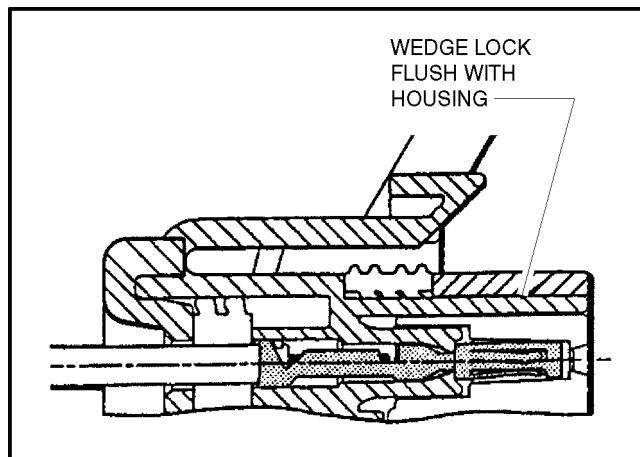

Figure 7-9. Connector Assembly (4 of 4)
4. Slide the wedge lock into the housing until it is flush with the housing (See Figure 7-9., Connector Assembly (4 of 4)).